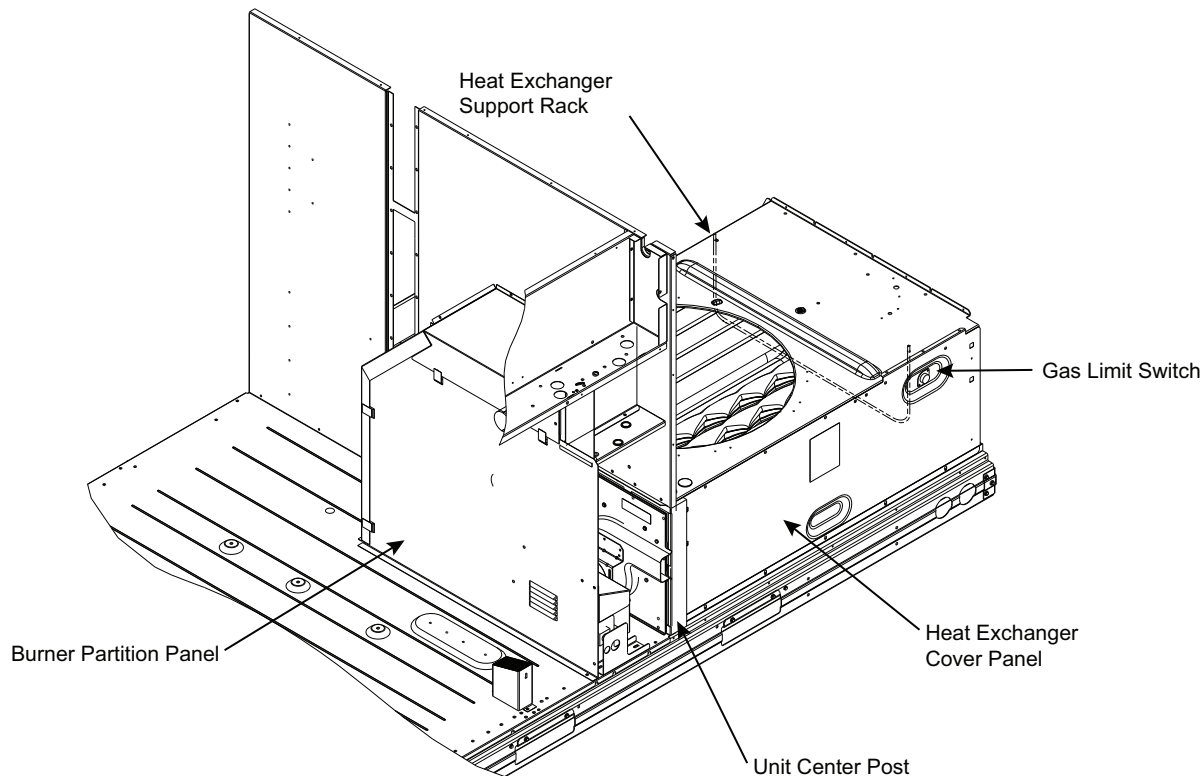

Fig. 55 — Heat Exchanger Access - Internal Panels, Center Post and HX Rack Locations
1. Remove the screw at the base of the burner partition panel (see Fig. 55) and slide out the panel.
5. Remove the screw at the base of the burner partition panel (see Fig. 55) and slide out the panel.
3. Remove the unit center post (see Fig. 55).
Remove the indoor blower access panel. Limit switch is located on the heat exchanger cover panel. See Fig. 55.